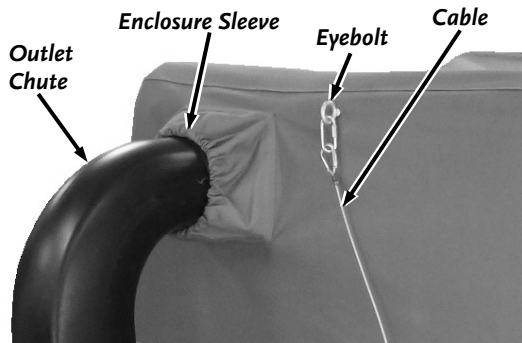

Figure 48
6. Pull the Enclosure Sleeve around the Outlet Chute (**Figure 48**).